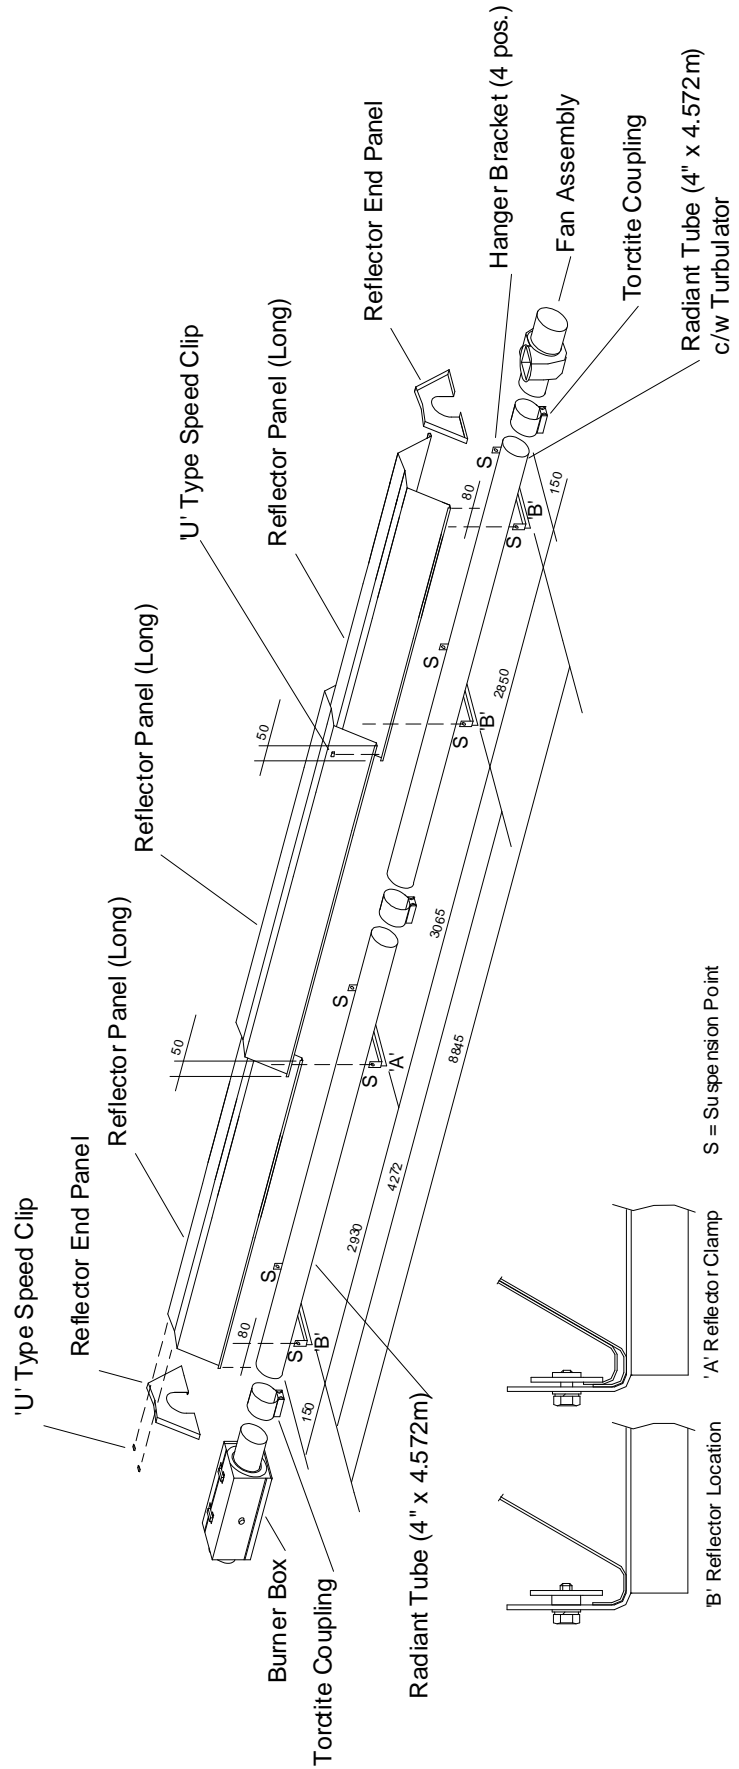
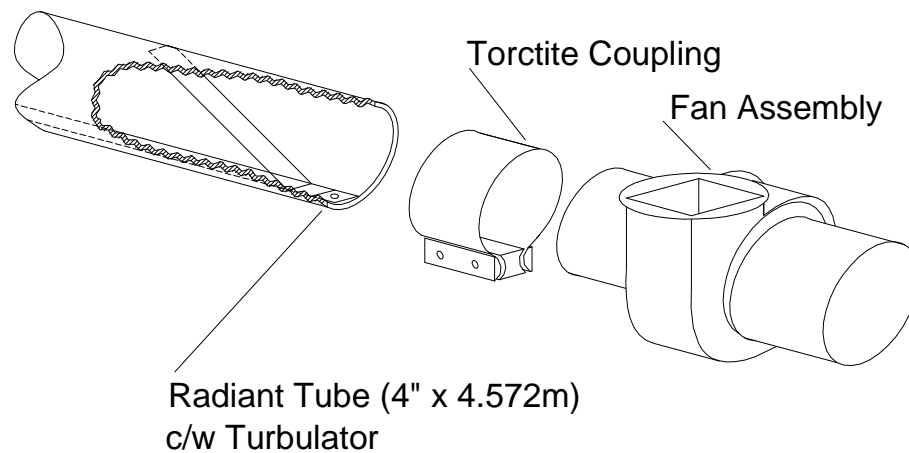

Fig. 22
Fig 23
- 4.7.2 Place the Radiant Tube and Radiant Tube Assembly (containing turbulator) on trestles, providing 150mm minimum clearance above the floor and assemble the four Hanger Brackets to the Radiant Tube and Radiant Tube Assembly, using one 'U' bolt per bracket (from fastenings pack). Position the Hanger Brackets along the Radiant Tube and Radiant Tube Assembly as shown in Fig. 22. Ensure that the welded seam of the tubes is in contact with the hanger brackets i.e. facing away from the reflector. Tighten the 'U' bolt nuts sufficiently to retain the Hanger Brackets. Do not overtighten.
**IMPORTANT:** ensure that the turbulator is positioned adjacent to the Fan Assembly and orientated as shown in Fig. 23. Failure to assemble the Radiant Tubes with their welded seams facing away from the reflector will void the manufacturers warranty.
- 4.7.3 Place one Torctite Coupling over the end of the Radiant Tube (see Fig. 22) ensuring that it engages fully, up to the stop. Assemble the Control Box to the Radiant Tube ensuring that it engages fully into the Torctite Coupling (up to the stop) and is positioned vertically with the door latch uppermost (see Fig. 10). Tighten the nuts of the Torctite Coupling to secure the Control Box to the Radiant Tube, taking care to support the Control Box in line with the axis of the tube.
- 4.7.4 Place a second Torctite Coupling over the end of the Radiant Tube Assembly at the end where the turbulator is secured to the tube, (see Fig. 22 and Fig. 23) ensuring that it engages fully up to the stop. Assemble the Fan Assembly to the Radiant Tube, ensuring that it engages fully into the Torctite Coupling (up to the stop) and is positioned with the fan outlet horizontal for flueless applications or either horizontal or vertical (facing upwards) for flues applications. Tighten the nuts of the Torctite Coupling to secure the Fan Assembly to the Radiant Tube, taking care to support the Fan Assembly in line with the axis of the tube.
- 4.7.5 The two sections of the appliance should now be raised and suspended from previously fixed chains or drop rods as detailed in Section 3.1, at suspension points indicated in Fig. 22. Rope or webbing slings should be used when lifting from above. If using a forklift to position the appliance sections, ensure that they are balanced on the forks prior to lifting.
- 4.7.6 Place the third Torctite Coupling over the open end of one Radiant Tube ensuring that it engages fully, up to the stop. Assemble the second Radiant Tube into the Torctite Coupling ensuring that it engages fully, up to the stop with the Hanger Brackets aligned with those of the first Radiant Tube section (see Fig. 23). Tighten the nuts of the Torctite Coupling to secure the two sections of Radiant Tube to one another, taking care to maintain the tubes in a straight line.
- 4.7.7 Place two of the Reflector Panels onto the Hanger Brackets and position their outer edges such that they overhang the outer Hanger Brackets by 80mm (see Fig. 22). Place the third Reflector Panel over the two previously positioned Reflector Panels to provide a 50mm overlap at each end. Clamp the first and second Reflector Panels, where they overlap, to the second Hanger Bracket (from Control Box end) using two retainers and M6 setscrews and washers (fastenings pack). Secure the outer end of the centre Reflector Panel to the Reflector Panel at the Fan Assembly end of the appliance using two U type speed clips (from fastenings pack) as shown in Fig. 22. Screw the remaining (6) retainers to each of the other Hanger Brackets to provide location for the Reflector Panels as shown in Fig. 22.
- 4.7.8 Position one Reflector End Panel over the Radiant Tube and into one end of the Reflector Panels with the End Panel flange flush with the end of the Reflector Panel. Secure the Reflector End Panel to the Reflector Panels by use of six 'U' type speed clips provided (fastenings Pack); 2 clips per facet of Reflector Panel, as shown in Fig. 22.